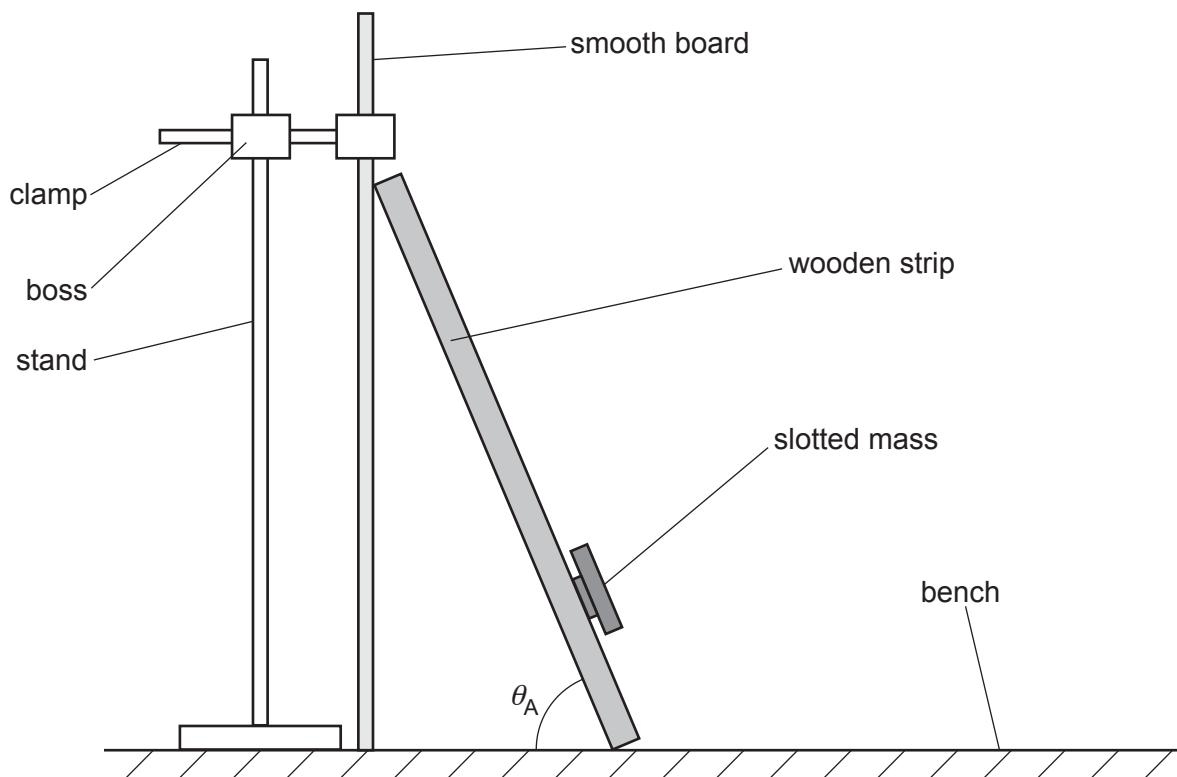

Fig. 2.2
(ii) You have been provided with a smooth board. Support the board vertically on the bench using the stand, boss and clamp, as shown in Fig. 2.2.
- Lean the strip against the smooth board with the slotted mass nearer the lower end, as shown in Fig. 2.2.
- The angle between the strip and the bench is θ_A , as shown in Fig. 2.2.